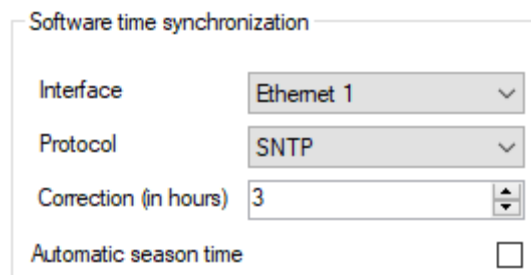

Figure 163 – Software time synchronization
5.3.4.2.1 Software time synchronization (figure 163)